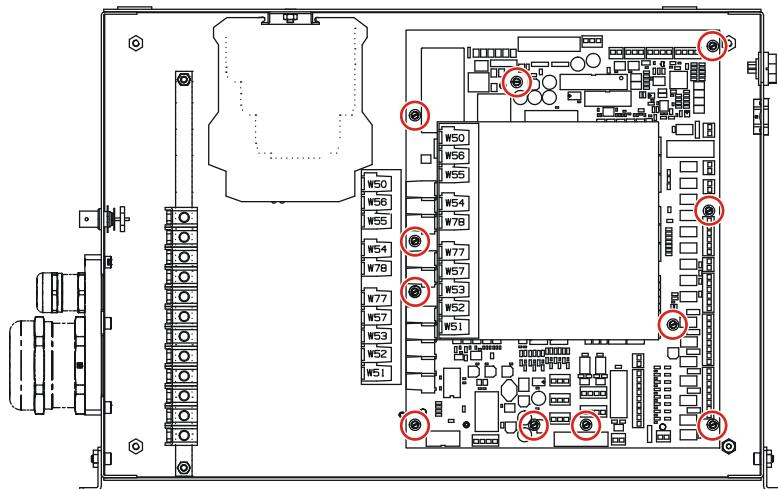

Figure 84: Location of LCB securing screws
11. Use the 2.5 mm allen key to unscrew the securing screws and remove the LCB. The locations of the securing screws are shown (circled) in Figure 84.